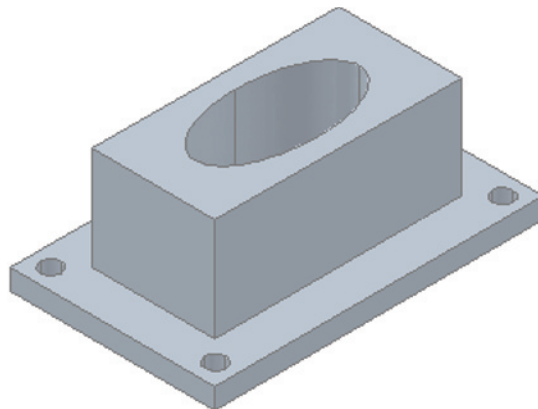

Fig. 13.27 Example – isometric view – **Chamfer and Fillet** – the model before using the tools
2. Place in the **Southwest Isometric** view. **Union** the two boxes and, with the **Subtract** tool, subtract the cylinders from the union (Fig. 13.27).